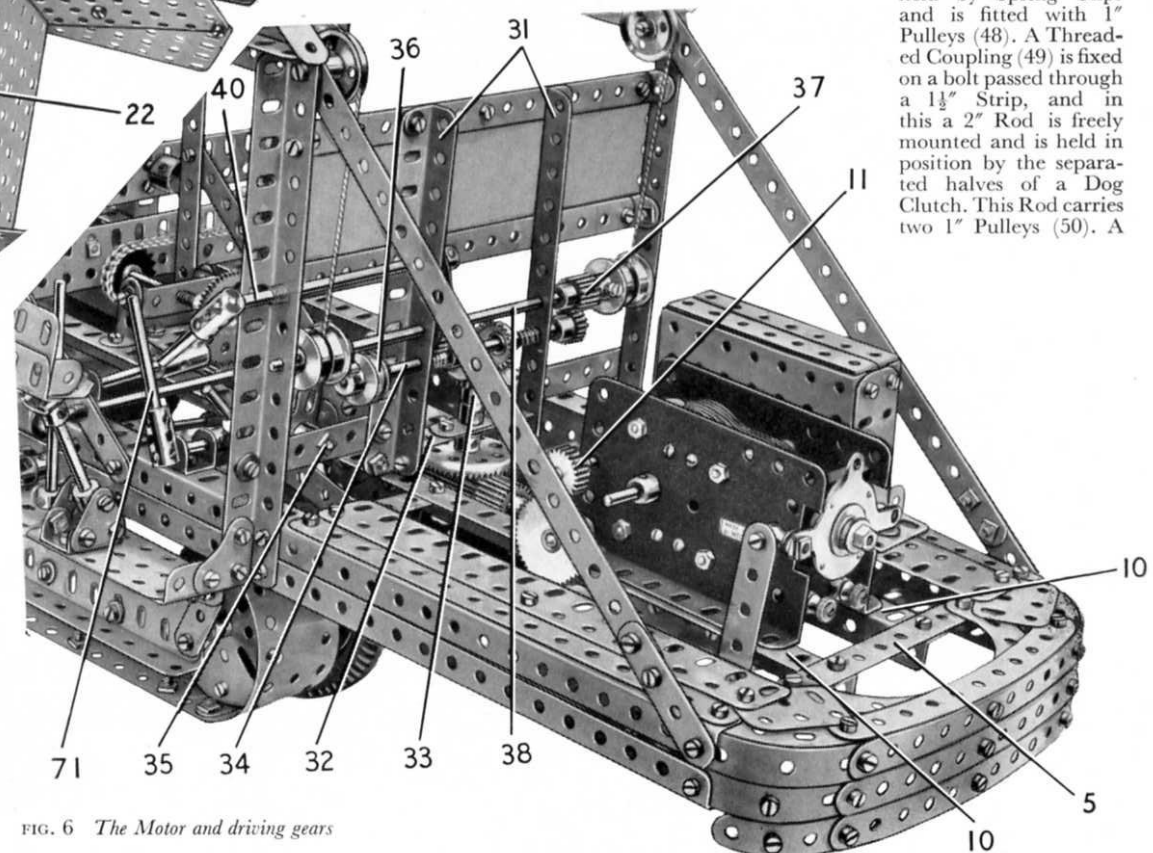

FIG. 6 The Motor and driving gears
An E15R Electric Motor is bolted by its flanges to the Girders (10) (see Fig. 6) and a
$\frac{7}{16}$ " Pinion on its armature shaft drives a 60-tooth Gear (see Fig. 2) on a 3" Rod mounted in the Motor side-plates. This Rod carries a $\frac{3}{4}$ " Pinion (11) (Fig. 6) that drives a 50-tooth Gear on a $2\frac{1}{2}$ " Rod. A Worm (12) (Fig. 2) fixed on this Rod engages a $\frac{1}{2}$ " Pinion on an $11\frac{1}{2}$ " Rod (13). The bearings for Rod (13) are provided by a Double Arm Crank (14) and a $1\frac{1}{2}$ " Strip, each of which is attached to the Girders (10) by two Angle Brackets. The $1\frac{1}{2}$ " Strip is positioned immediately behind a $\frac{1}{2}$ " Pinion (15) (Fig. 8) fixed on the Rod, which carries also a $\frac{3}{4}$ " diameter $\frac{1}{2}$ " face Pinion (16) and a $\frac{3}{8}$ " Bevel Gear (17).
Two $5\frac{1}{2}$ " Angle Girders (31) are connected to the Girders (10) by Corner Angle Brackets, and each is joined to one of the Girders (2) by a 3" Strip. The Girders (31) are connected by two $5\frac{1}{2}$ " x $2\frac{1}{2}$ " Flexible Plates overlapped seven holes and edged by two $7\frac{1}{2}$ " Strips. These are attached to the Girders (2) by Angle Brackets. A $2\frac{1}{2}$ " x $\frac{1}{2}$ " Double Angle Strip (32), with a Double Arm Crank bolted to it, is fixed between the lower ends of the Angle Girders (31) (Fig. 6).
A $1\frac{1}{2}$ " Contrate that meshes with the Pinion (16) (Fig. 6) is fixed on a $1\frac{1}{2}$ " Rod free in the Double Angle Strip (32) and in the boss of the Double Arm Crank. A $\frac{1}{2}$ " Pinion (33) is fixed on the upper end of the Rod. A cross shaft (34) is formed by a 5" Rod mounted in the Girders (31), and this carries two $\frac{3}{4}$ " Contrates arranged one on either side of the Pinion (33), with a Compression Spring between each Contrate and one of the Girders (31).
The movement of Rod (34) is controlled by a Bell Crank mounted on a Pivot Bolt (35) (Fig. 6). One arm of the Bell Crank is extended by a 1" Rod held in a Handrail Support, and a Threaded Pin is fixed in the other arm. The Threaded Pin engages a $\frac{1}{2}$ " loose Pulley (36) with a $\frac{3}{4}$ " Washer and a Collar on either side of it. A $\frac{1}{2}$ " Pinion on Rod (34) drives a $\frac{1}{2}$ " diameter, $\frac{1}{2}$ " face Pinion (37) on an 8" Rod (38). This Rod carries two pairs of $\frac{3}{4}$ " Flanged Wheels and a Ratchet Wheel (39). A Pawl on a $\frac{1}{2}$ " Rod (40) engages